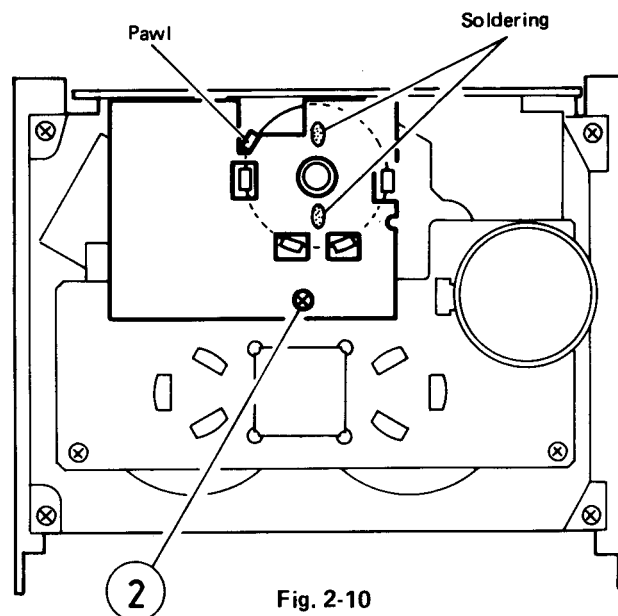
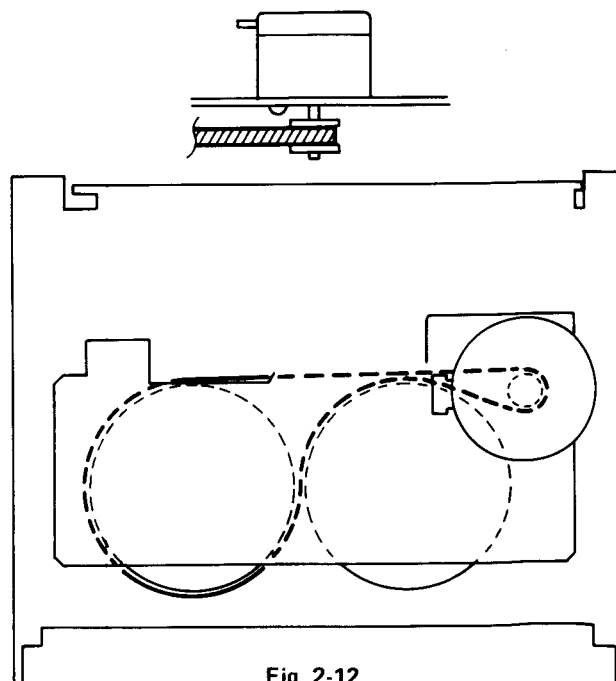

Fig. 2-10
Fig. 2-12
- 3) For reengaging the spring, refer to the figures (A) and (B).
■ **FM bracket/Capstan motor assembly** (Figs. 2-10, 2-11)
- 2) Remove one screw ② retaining the FM bracket together.
- 3) Remove two screws ③ and disengage five pawls, and then the FM bracket and the capstan belt (mechanism A and B) can be removed.
- 4) Remove two screws ④ retaining the capstan motor from the FM bracket.
- 5) For reengaging the capstan belt, refer to Fig. 2-12